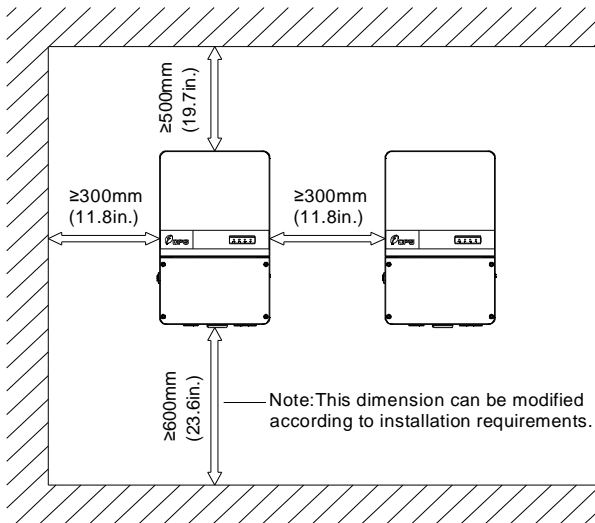
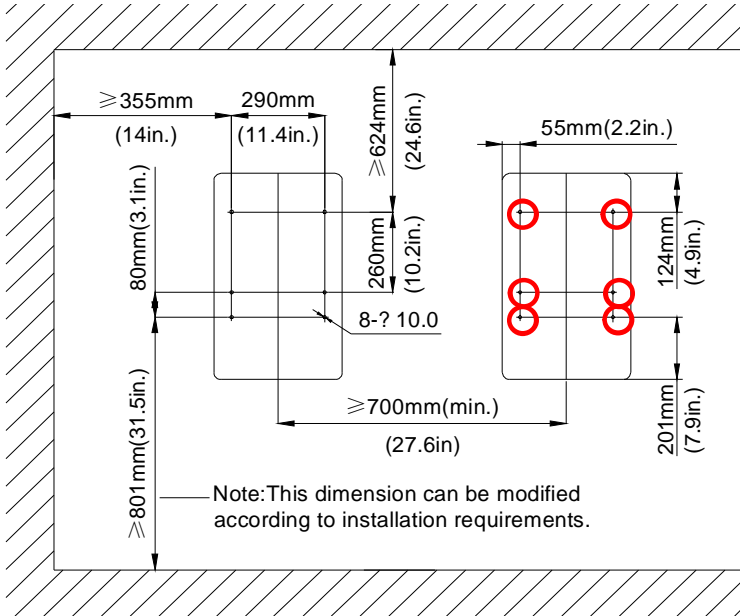

Figure 3-3 Inverter Wall Mounting Dimensions
Figure 3-4 Dimensions of the bracket anchoring holes for mounting
- ✓ Sufficient space according to Figure 3-3 and Figure 3-4 must be provided to allow the inverter cooling system to operate effectively.